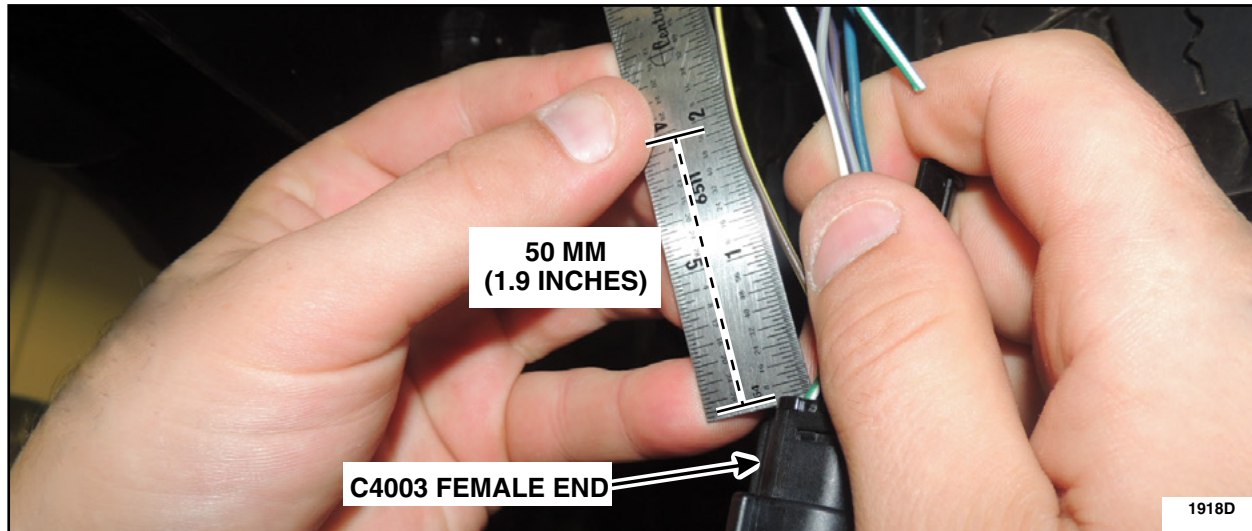

FIGURE 6
9. Cut the Brown-Yellow (BN-YE) wire (cavity 2) 50 mm (1.9 in) from the back side of the C4003 female end. See Figure 6.